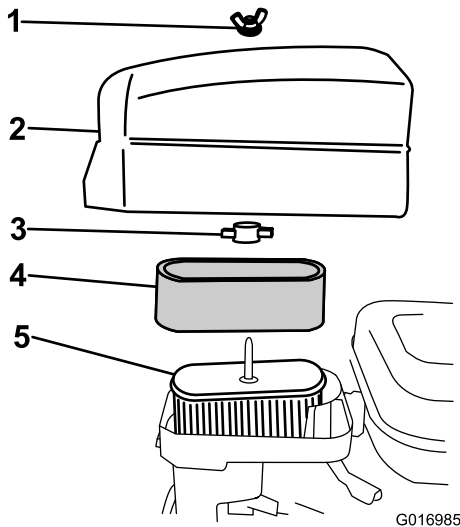

Figure 32
4. If the foam element is dirty, remove it from the paper element (Figure 32) and clean it as follows: